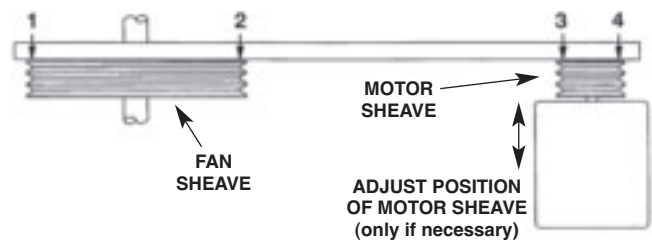

Figure 21 – Sheave Alignment Check
8. As a final check, lay a straight edge from sheave to sheave (Figure 21). There should be 4 point contact. Adjust the position of the motor sheave if necessary.